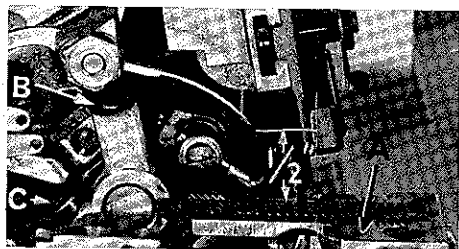

Fig. 3
With throat plate assembled in position, needle should center in the front end of needle slot. When needle is at high position, the needle point should be set  $\frac{1}{2}$  inch above the throat plate (A, Fig. 3) for Style 39500 JK. For Style 39500 JL the needles points should be  $\frac{7}{16}$  inch above the throat plate. To align needle or set the height above the throat plate, move needle driving arm (B) by loosening clamp screw (C). After needle has been properly set, tighten clamp screw and remove throat plate.